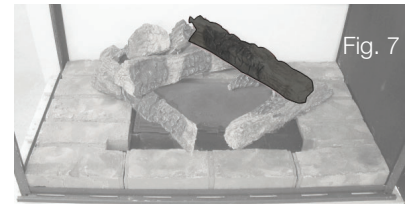

Fig. 7
- Place log #7 onto the pin located in log #6 and onto the pin in log #5 (**FIG.7**).